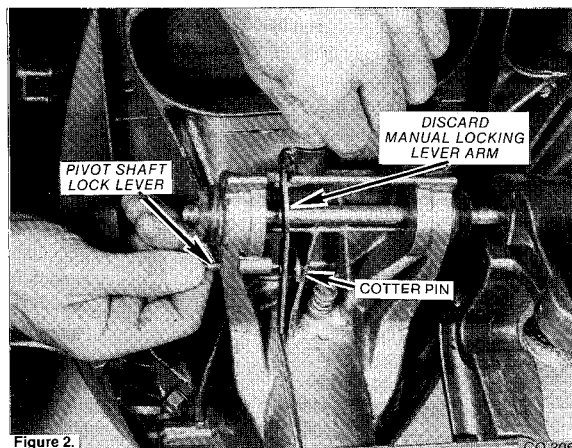

Figure 2.
2. Remove cotter pin from pivot shaft lock lever. Remove lock lever, and discard manual locking lever arm. See Figure 2.